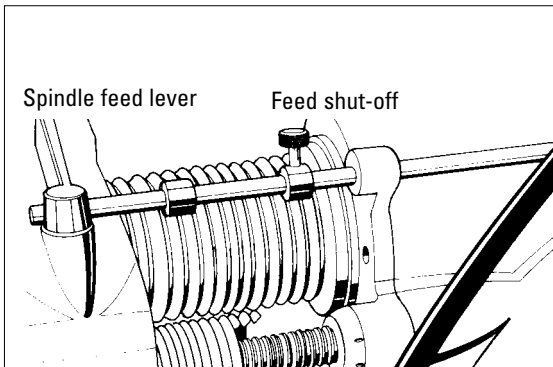

Figure 16 - Set spindle feed shut-off
**20.** Set the feed shut-off by sliding it on the shaft to a point that approximately equals the depth of the drum and tightening it in place (figure 16). The feed will stop when it reaches this point.